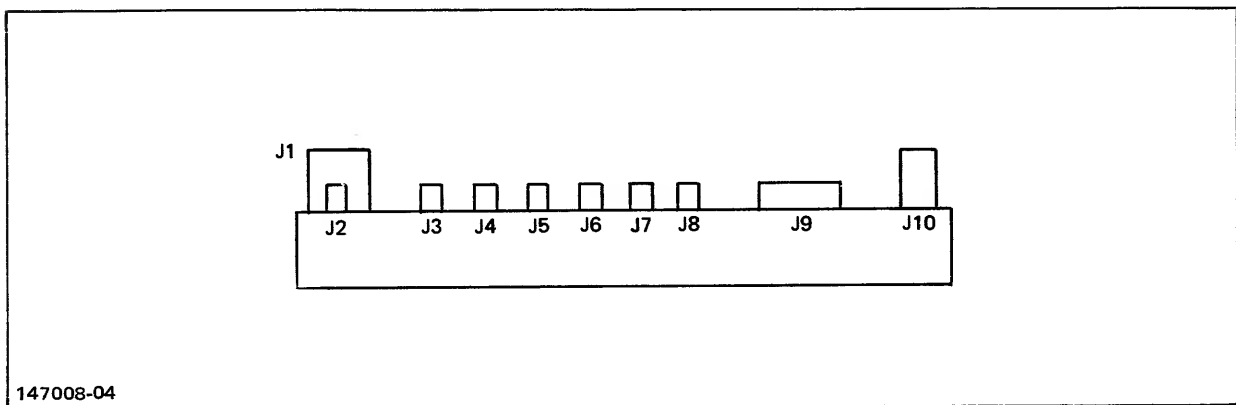

Figure 2-4. Power Control Module, Top View
2. At the I/O Bay, locate the power supply in the upper left corner. (See Figure 2-2, rear view.) A cable connected to the power supply is coiled and tied. Uncoil and route this cable through the channel cut-out in the bottom of the side panel between bays and connect the three-prong connector to J6 of the PCM. (See Figure 2-4 for PCM jack locations.)